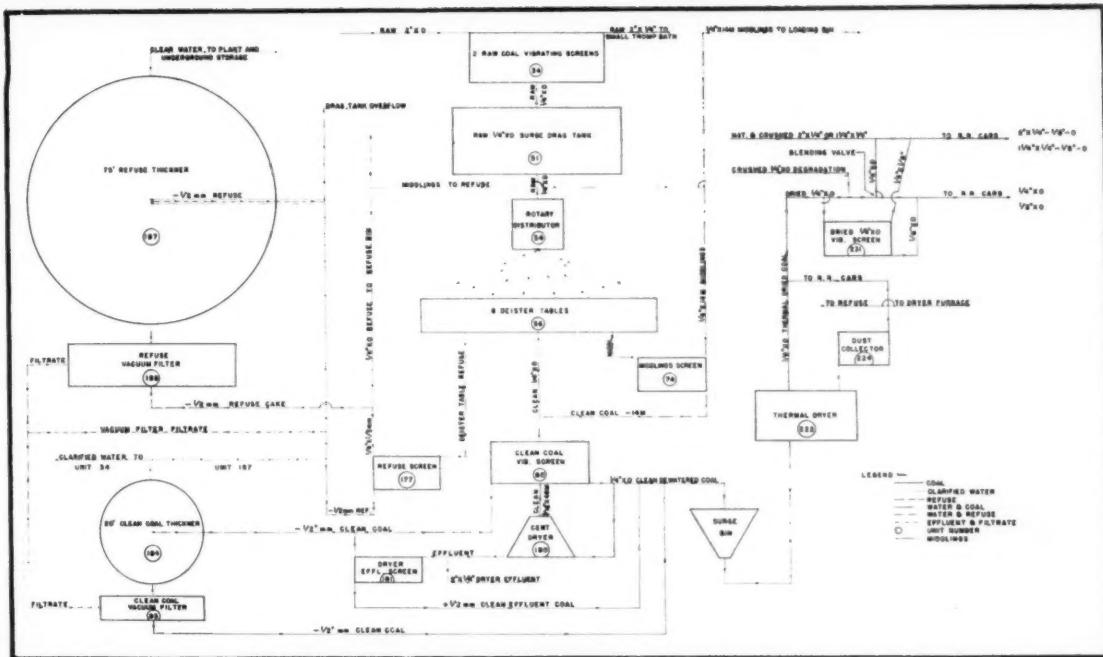

Fig. 3. Detailed flowsheet of the Leatherwood No. 2 fine coal and refuse circuit
Figure 3 is a detailed flow sheet of the Leatherwood No. 2 fine coal and refuse circuits. From the raw coal vibrating screens (34) the minus $\frac{1}{4}$ -in. material, at the rate of 80 tph, is sluiced to a large, conventional type drag tank (51) which serves the following purposes:
- (1) Because the tank is equipped with a variable discharge feature and has a storage capacity of about 22 tons of coal, it provides at least 15-min surge capacity in the fine coal circuit.
Referring again to figure 3, the clean $\frac{1}{4}$ -in. by 0 is discharged from the concentrating tables to a clean coal sump (58). The $\frac{1}{4}$ -in. by 0 middlings product from the tables passes over a 14-mesh middlings screen (74) from which the $\frac{1}{4}$ -in. by 14-mesh material is conveyed to the middlings bin (78). This material may also be conveyed directly to the refuse bin (49). Because of the nature of the impurities in the coal and the classifying action of the concentrating tables, the minus 14-mesh underproduct from the middlings screen is low in ash and is, therefore, discharged to the clean coal sump. From the clean coal sump the washed $\frac{1}{4}$ -in. by 0 is pumped as a slurry to a double-deck clean coal